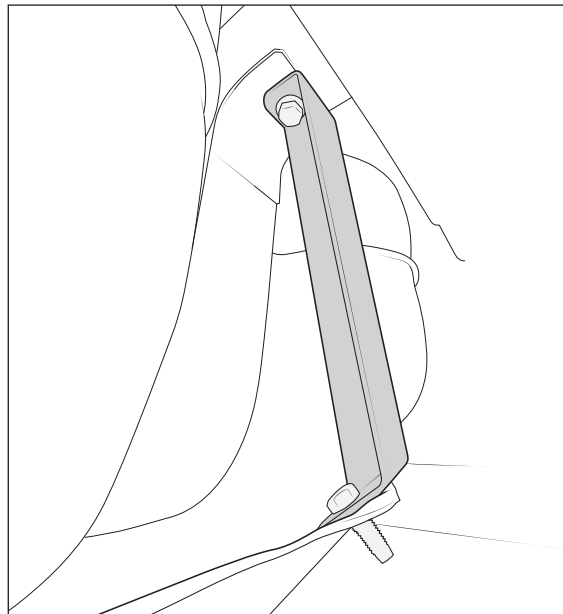

Figure 9
7. Optional fuel tank skid plate pencil brace installation (fig. 9).